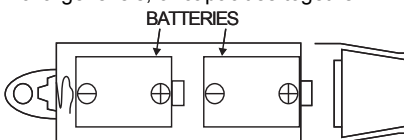

Fig. 2
2. Install two D-Size batteries according to polarity directions embossed on the Battery Case just above the threads. (See Fig. 2)